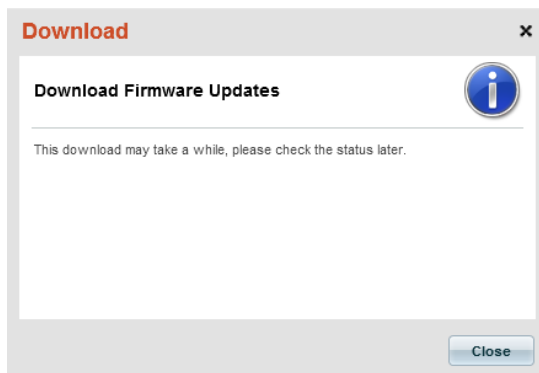

FIG. 440 Download Firmware Updates notification dialog
2. Update Manager presents a notification dialog that indicates that this download operation may take some time - click **Close** to close this dialog (FIG. 440):